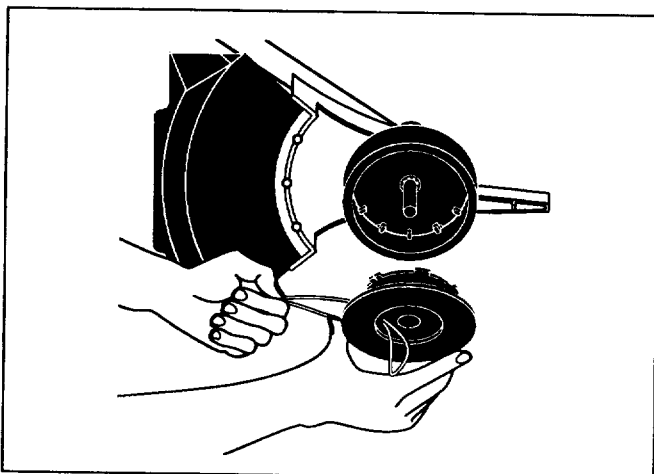

Fig. 14
1. Loop approximately 50 ft (15.3 m) of new trimming line into two equal lengths. Insert each end of the line through one of the two holes in the inner reel (Fig. 14). Pull the line so the loop is as small as possible.